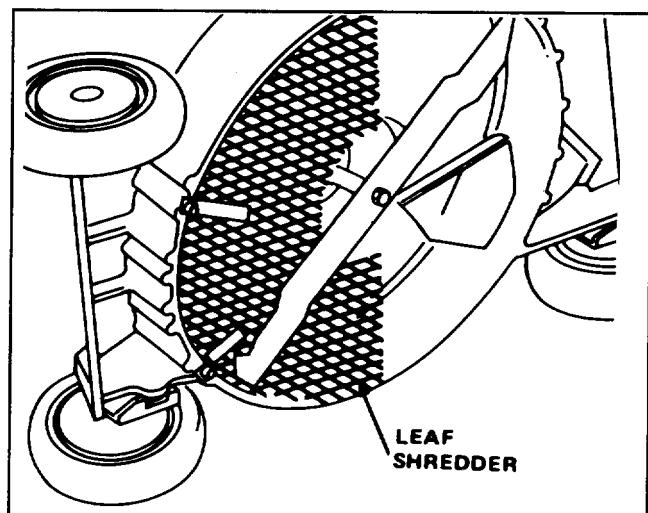

Figure 26
2. **Leaf Shredder Kit, Model No. 59157**—Installs on underside of mower in minutes without requiring removal of blade (Fig. 26). Shreds leaves into small pieces for clean vacuuming into grass bag and convenient disposal.